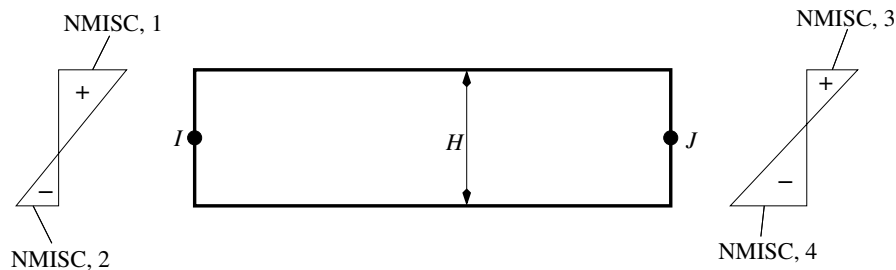

Figure 2: Variables NMISC for a beam element
- For a two-node beam element, ‘NMISC, 1’ and ‘NMISC, 3’ are associated with the maximum bending stresses at the starting node (I) and ending node (J), respectively; and ‘NMISC, 2’ and ‘NMISC, 4’ the minimum bending stresses at nodes I and J , respectively (see Fig. 2)